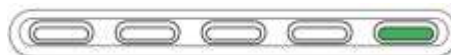

Figure 3-10
- Step 3 Check charging status: it means the remote control is charging when the indicator light is red and normally on. It means charging is done when the indicator light becomes green and normally on, as shown in Figure 3-10.